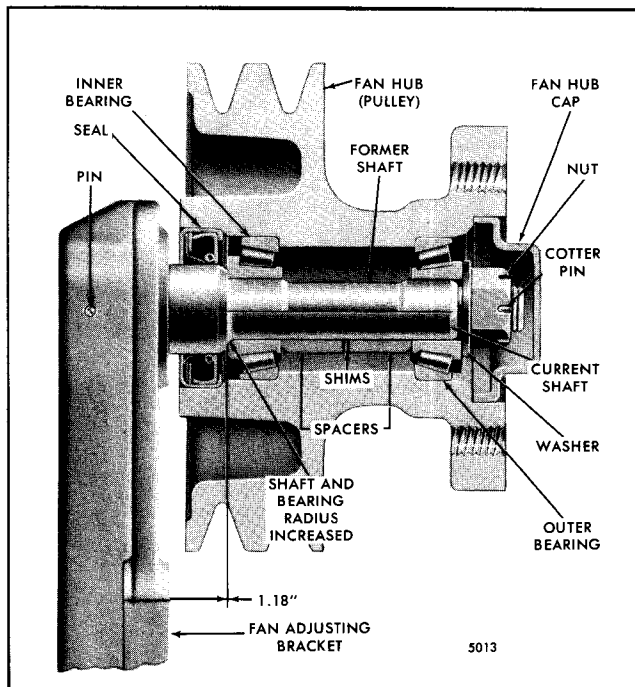
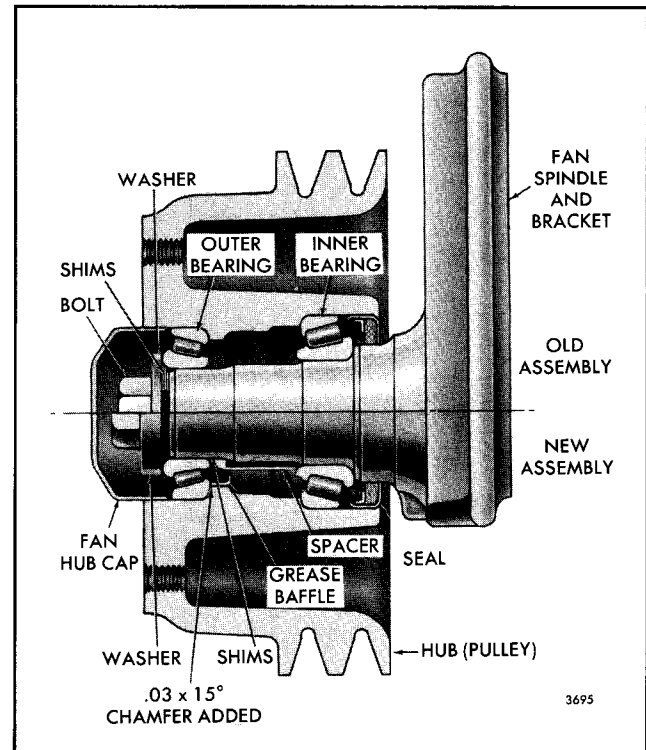

Fig. 6 - Shaft Type Fan Hub Assembly (6V Engine)
Fig. 7 - Spindle Type Fan Hub Assembly (6V and 8V Engine)
2. Remove the hub retaining cotter pin, nut and washer (Fig. 6) or the bolt and special washer (Fig. 7 and 8). Also remove the shims if the former type fan hub assembly illustrated in Fig. 7 is used.
5. Remove the bearing spacer (Fig. 7 and 8) and shims (if the current type hub assembly is used).
The fan hub assembly illustrated in Fig. 6 has been revised. The revisions consist of an increase in the bearing inner race and shaft bearing radii, a hardened hub retaining nut and washer and the addition of spacers and shims on the shaft between the bearings. This type fan hub assembly should be rebuilt with the current parts, especially where the former undercut shaft is used. The current spacers and shims cannot be used with the former shaft.
To replace the shaft, remove the groove pin and press the shaft from the adjusting bracket. Press the new shaft in the bracket to the dimension shown in Fig. 6. Then drill the shaft, using the hole in the bracket as a guide, and install a groove pin.
The spindle-type fan hub assembly illustrated in Fig. 7 has also been revised. A bearing spacer has been added and a new outer bearing, which provides a closer fit on the shaft, replaces the old. A baffle has also been added to retain the grease and assure lubrication at the outer bearing. To facilitate installation of the grease baffle, a .030" by 15° chamfer has been added to the bore in the pulley.
Assemble the fan hub and spindle shown in Figs. 7 and 12 as follows: